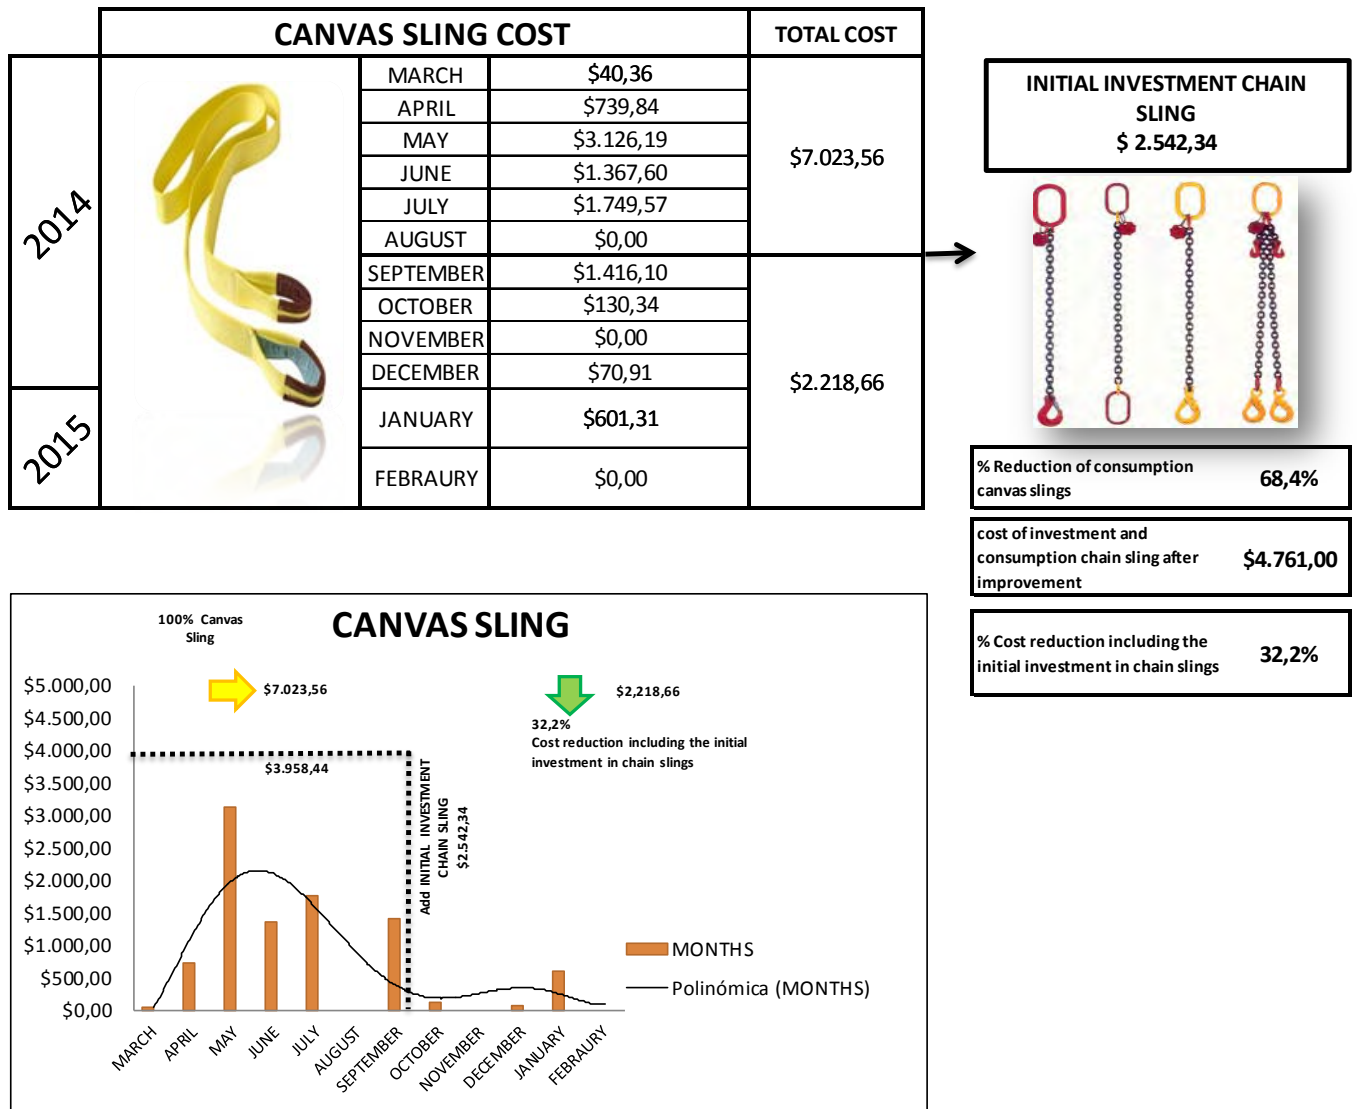

Figure 8. Costs reduction stats per lifting elements consumption with the implementation of the strategy.
- 32.2% time reduction in 6 months regarding canvas slings and lifting accessories consumption; it went from \$ 7,023.56 USD to \$ 4,761.00 USD, considering that the second cost includes the sum of canvas sling consumption after the upgrade (\$ 2,218,66USD), plus the initial investment made by switching to chain slings (\$ 2,542,34USD, longer service life) see figure 8.